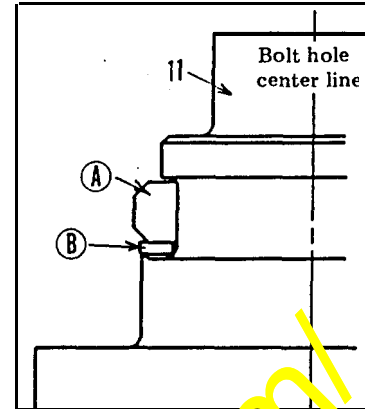

Fig. 15
- 1) Lubricate new seal and the groove for seal of valve body (11) with oil or grease. Fit ring (B) first to the groove of valve body (11), then fit seal (A). (Fig. 15)